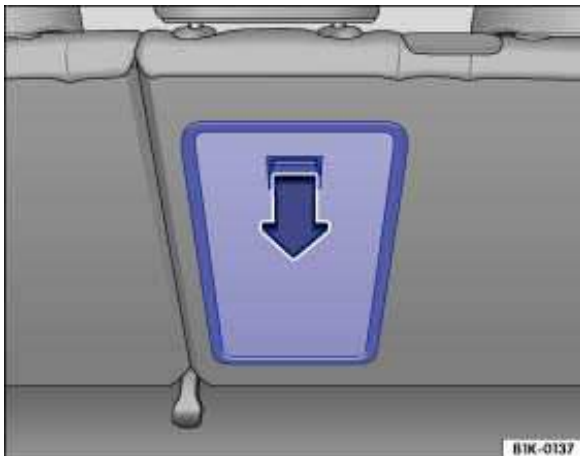

Fig. 103 In the luggage compartment: Opening the pass-through.
- Fold the pass-through cover back until it engages securely. The red marking on the luggage compartment side ⇒ fig. 103 should not be visible.